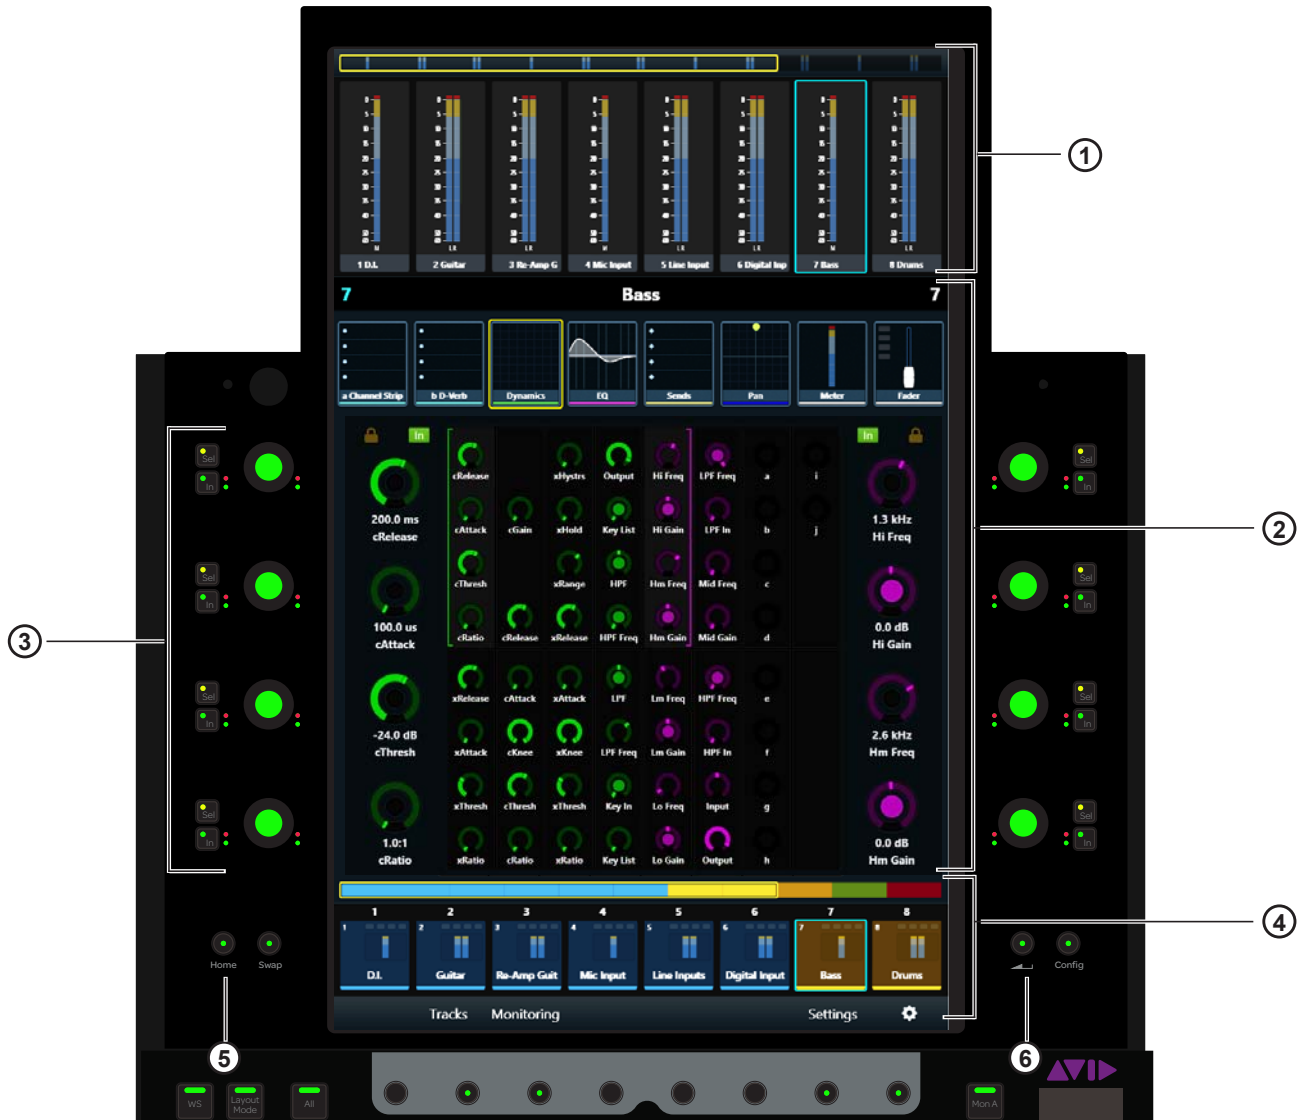

Figure 15. Home screen
- Press **Home** (5 on left of Figure 15) on the Master Module.